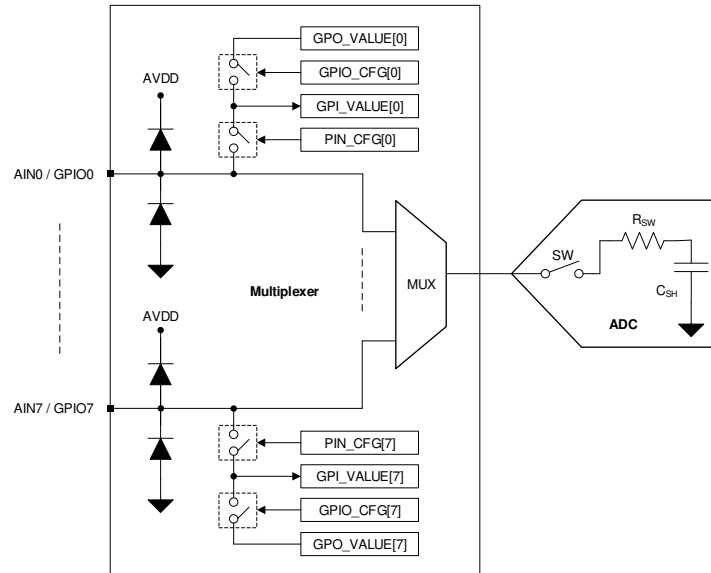

Figure 7-1. Analog Inputs, GPIOs, and ADC Connections
The eight channels of the multiplexer can be independently configured as ADC inputs or general-purpose inputs/outputs (GPIOs). As shown in Figure 7-1, each input pin has ESD protection diodes to AVDD and GND. On power-up or after device reset, all eight channels of the multiplexer are configured as analog inputs.
Figure 7-1 shows an equivalent circuit for the pins configured as analog inputs. The ADC sampling switch is represented by an ideal switch (SW) in series with a resistor (R_{SW} , typically 150 Ω) and a sampling capacitor (C_{SH} , typically 30 pF). During acquisition, the SW switch is closed to allow the signal on the selected analog input channel to charge the internal sampling capacitor. During conversion, the SW switch is opened to disconnect the analog input channel from the sampling capacitor.
To enable write access to the configuration registers for diagnostics, write 0x96 in the `DIAGNOSTICS_KEY` register. To enable bit-walk test mode, configure `BITWALK_EN` = 1b. In the bit-walk test mode (see Figure 7-1), the sampling switch (SW) remains open and the test voltage is applied on the sampling capacitor (C_{SH}) during the acquisition phase of the ADC. In diagnostic mode, the conversion process of the ADC remains the same as normal device operation. The ADC starts the conversion phase on the rising edge of $\overline{CS}$ and outputs the code corresponding to the sampled test voltage. The output code of the ADC is expected to be proportional to the test voltage, as shown in Equation 2, after adjusting for DC errors (such as INL, gain error, offset error, and thermal drift of offset and gain errors).